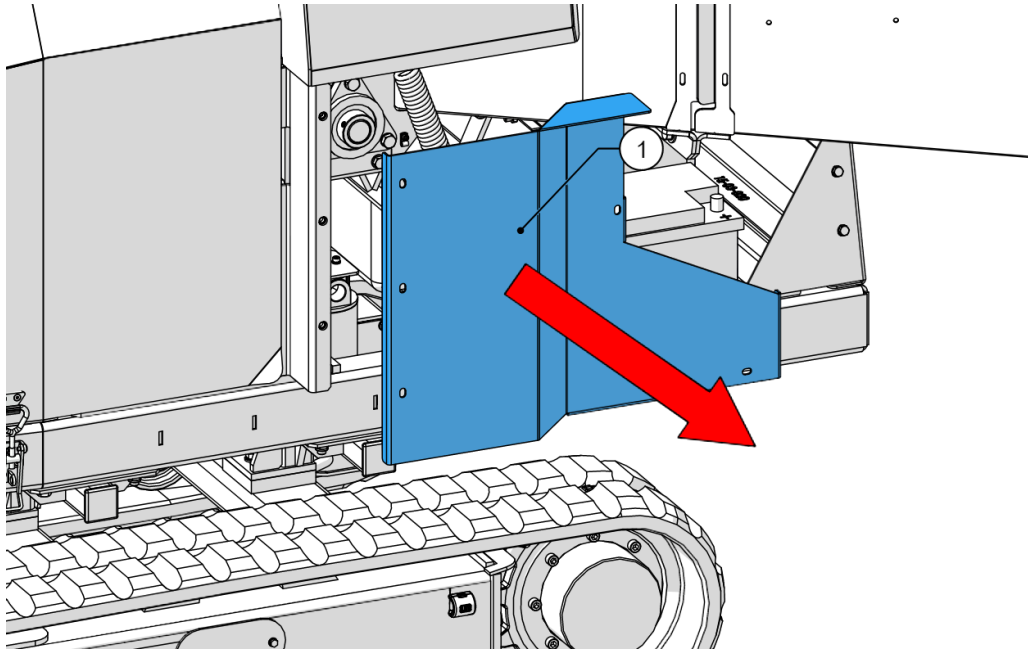

Figure 47 - Remove side panel
4. Remove the side panel (1, Figure 47).